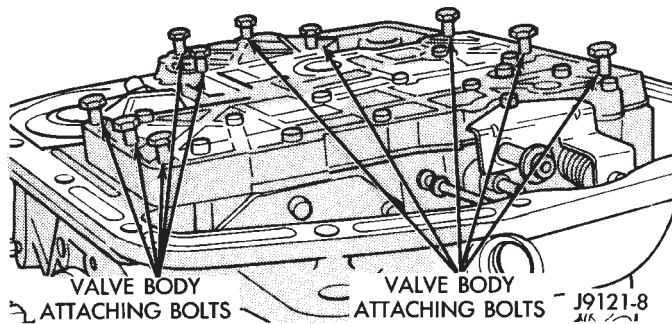

Fig. 5 Valve Body Attaching Bolt Locations (Typical)
(9) Remove hex head valve body attaching bolts (Fig. 5).
(11) Lift valve body upward, guide park rod out of case opening and remove valve body (Fig. 5).